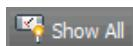

FIGURE 12.4 Applying Equal constraints to adjacent sides turns the rectangle into a square.
10. Select the Equal constraint tool in the Geometric panel. Click lines A and C in Figure 12.3. The rectangle becomes a square (see Figure 12.4).